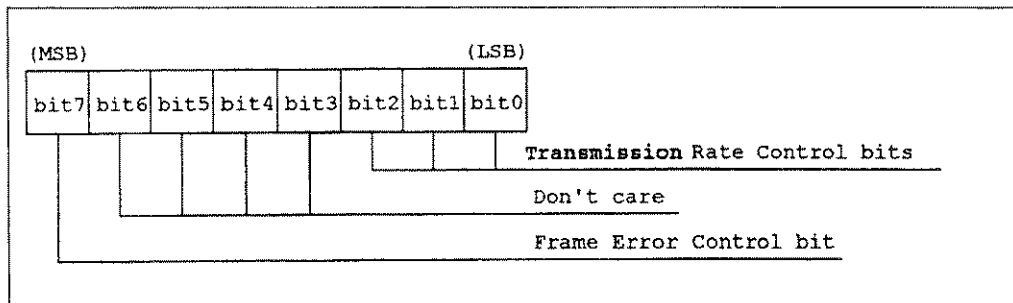

Figure 3-10 Control Bits Block
- (a) Control Bits Block: Consists of 8 bits used to control the Base Band coder. This block is used for R3561L internal control and is not used for output signals. Figure 3-10 shows the function of each bit in this block.